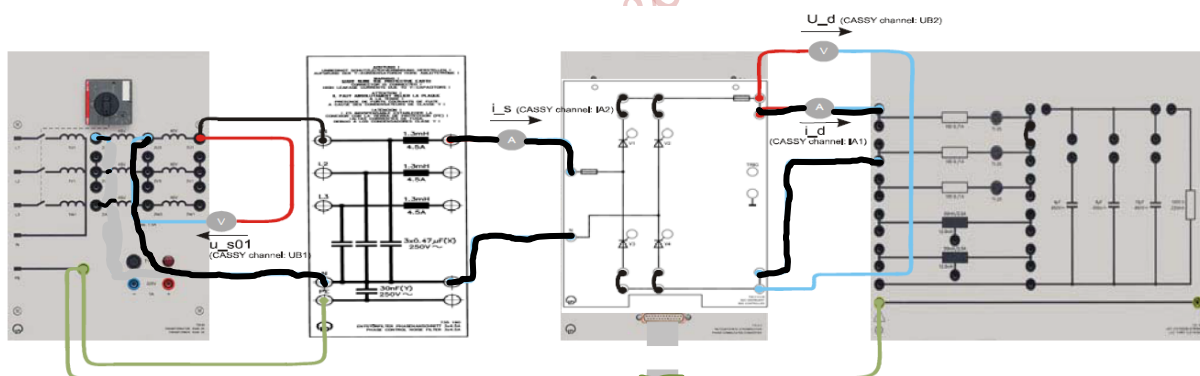

Figure 1.3 Configuration of Single-Phase Full-Wave Rectifier supplying a resistive load
- Connect the components as shown in Figure 1.3. The load is resistive of 200Ω (2 resistors in series, of 100Ω each). Ignore the probes' connections!